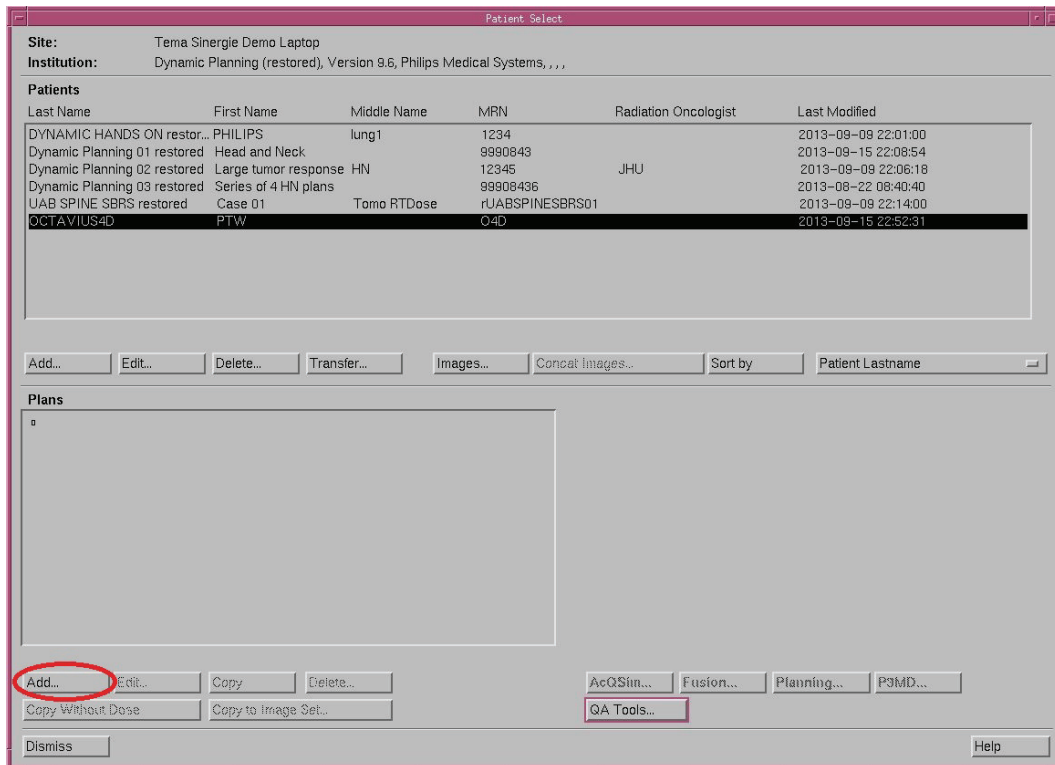

Fig. 2.6 Plan adding
3. Add a plan which uses the images just imported (Figure 2.6).